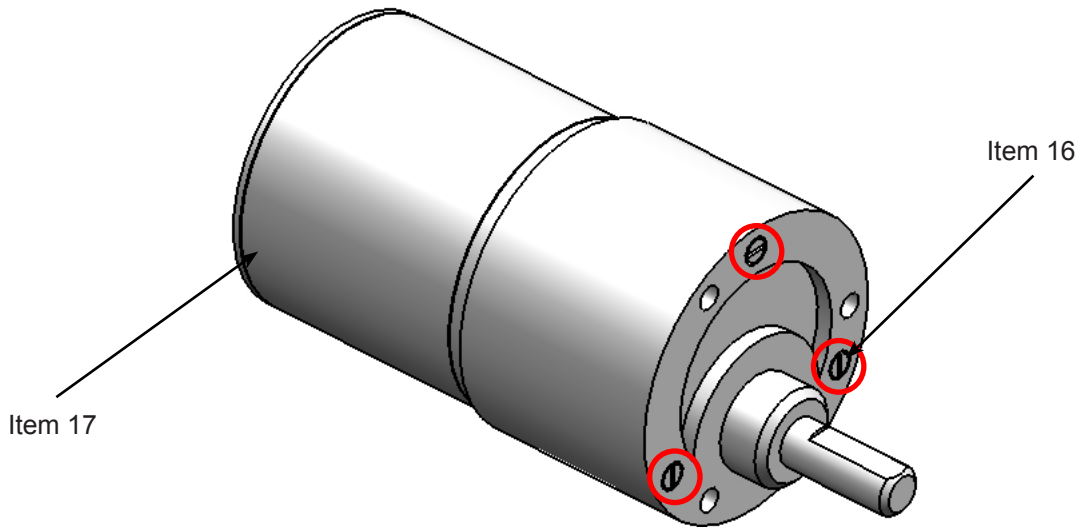

Figure 1-2: Rudder Trim Motor Servicing
Quest is mandating a one time application of a thread fastening/sealing agent to the securing screws of the rudder trim motor. Refer to **Figure 1-1** and **Figure 1-2**.
- 1.2.1. Individually remove the three (3) screws (Item 16) securing the small gearbox (Item 13) to the motor (Item 17), apply a thread fastening/sealing agent, and reinstall the screw (Item 16) before proceeding to the next screw. Tighten the screws (Item 16) to finger tightness + 1/4 turn, approximately .5 in-lb. Refer to **Figure 1-2.**